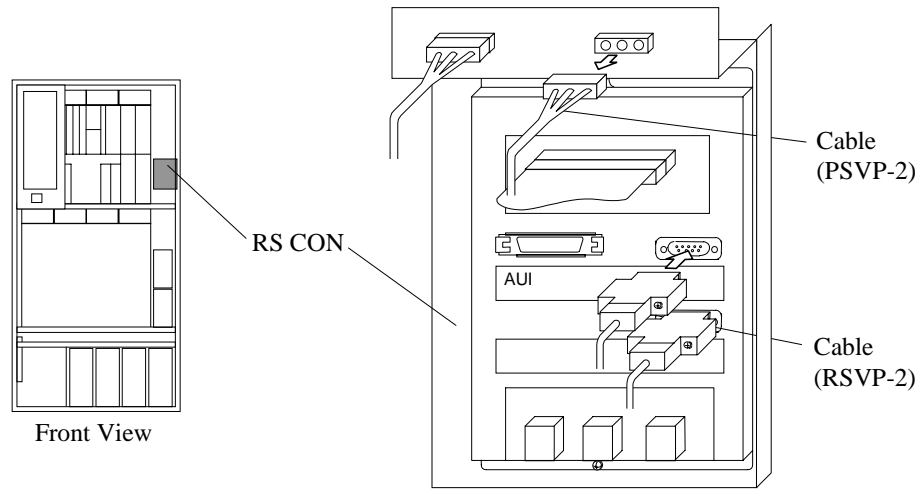

Fig. T7.1-7 Disconnect of Cables
- d. Attach the SVP Assy cables to the RS CON PCB and HUB BOX. And then close the four locking clamps. (See Fig. T7.1-7.)
- a. Disconnect the RS232C cable (RSVP-2) from the RS CON PCB. (See Fig. T7.1-7 [REP03-500].)